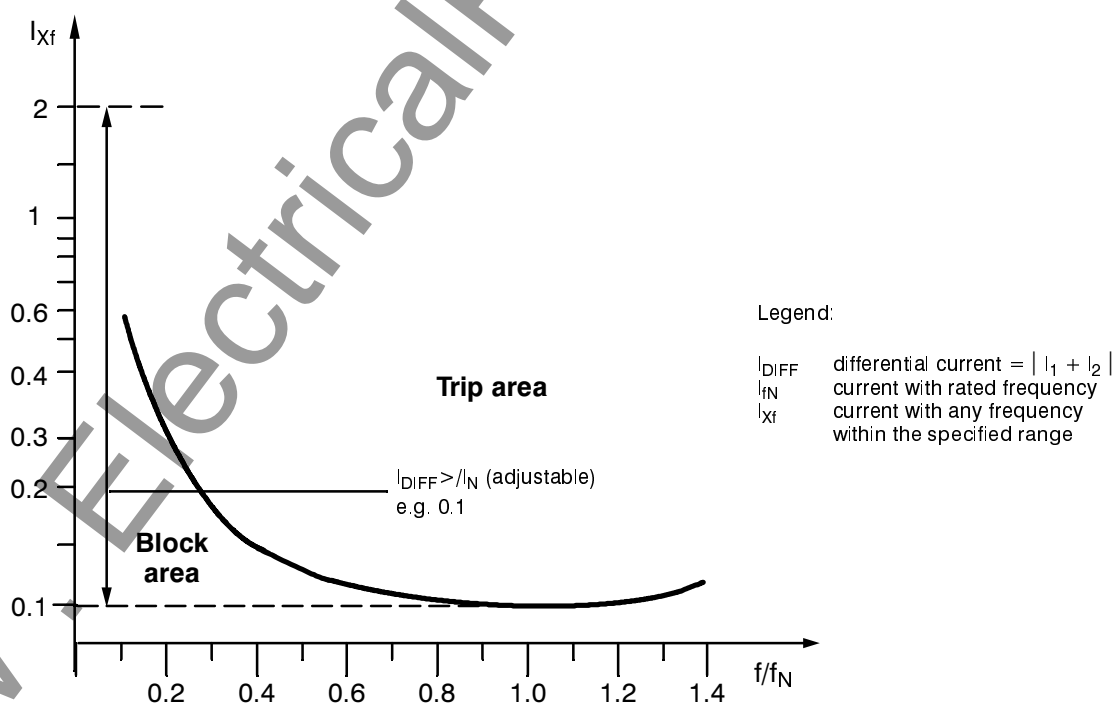

Figure 3.5 Frequency dependency (generator or motor protection)
- Frequency in range  $0.8 \leq f/f_N \leq 1.2$   $\leq 1$  % (refer to Figure 3.5)